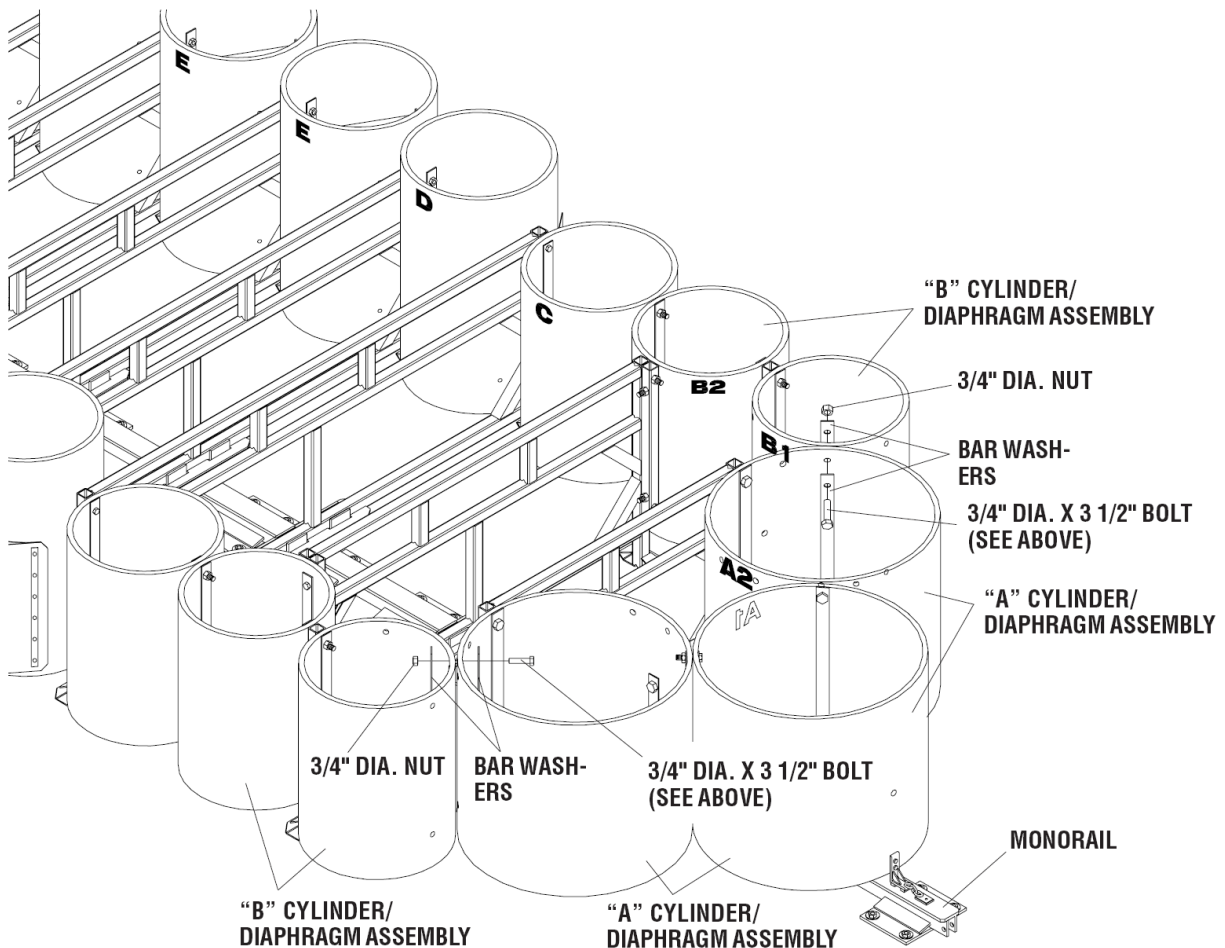

Figure 30
2. Assemble "A" Cylinder/Diaphragm Assembly onto "B" Cylinder Assemblies as shown in Figure 30.